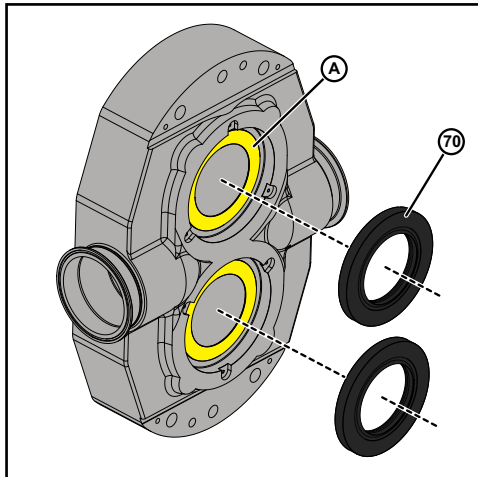

Figure 85 - Remove Lip seals
3. Remove and discard the lip seal (70) by using suitable tool like claw hammer/screw driver etc.
4. Remove the thin bead of silicone sealant (A) from the body, as shown in Figure 85.